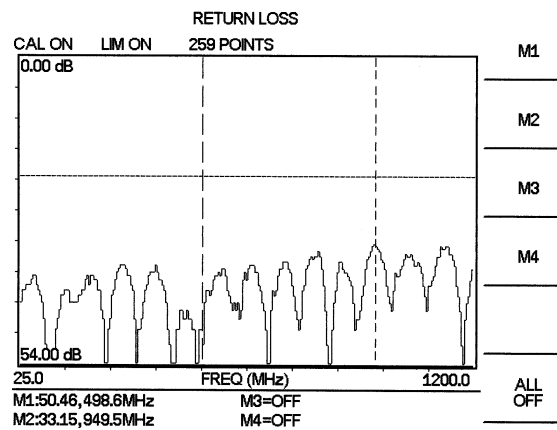

Figure 4-5. Cable Return Loss Measurement Results
Step 17. Observe the displayed measurement. Figures 4-5 and 4-6 show typical SWR and Return Loss measurements with markers and limit line set.
Step 25. Repeat steps 22 and 23 for marker M2. Set M2 to 950 MHz (Figures 4-5 and 4-6 depict the Return Loss and SWR measurements).